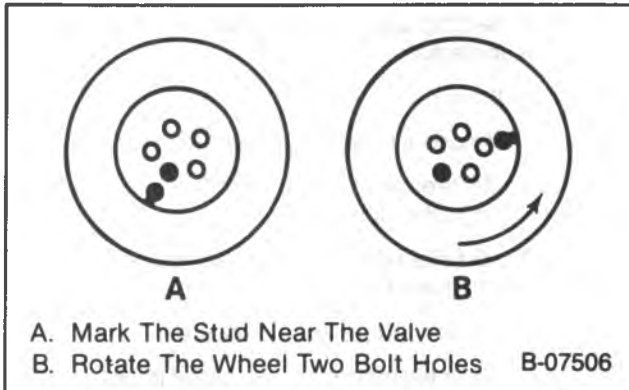

Figure 7 — Tire and Wheel Assembly to Hub/Rotor Vectoring
1. Mark the wheel hub bolt nearest the valve stem for reference (figure 7).
2. Rotate the assembly two wheel hub bolts and recheck the runout (figure 7).